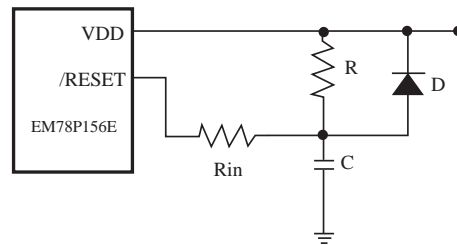

Fig. 14 External Power-up Reset Circuit
The circuit shown in Figure 14 implements an external RC to produce the reset pulse. The pulse width (time constant) should keep long enough until Vdd has reached minimum operation voltage. This circuit is used when the power supply has slow rise time. Because the current leakage from the /RESET pin is about 5A, it is recommended that R should not be greater than 40K. In this way, the voltage in pin /RESET will be held below 0.2V. The diode (D) acts a short circuit at the moment of power-down. The capacitor, C, will be discharged rapidly and fully. Rin, the current-limited resistor, protects against a high discharging current or ESD (electrostatic discharge) flowing to pin /RESET.